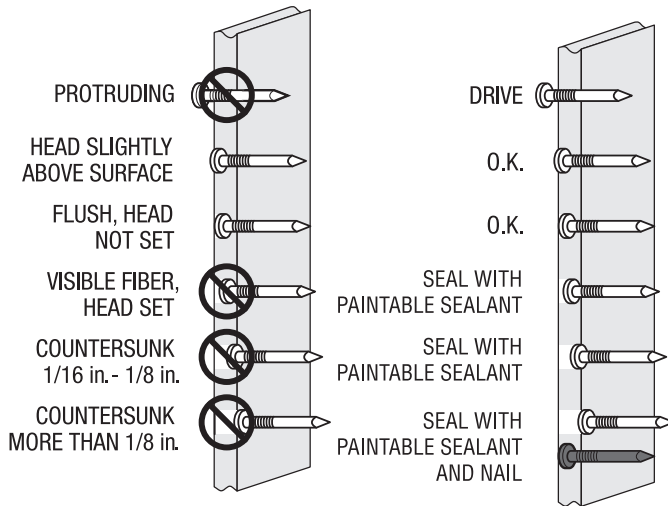

Figure 1
- Avoid countersinking nails or rupturing the surface of the siding. If countersinking occurs, seal nail prior to painting (see Fig. 1).
- Seal all overdriven nails (see Fig. 1)